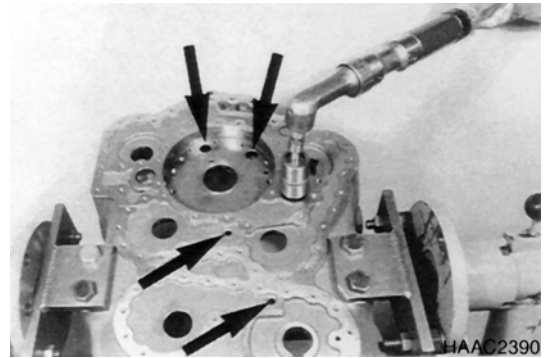

Figure 160
7. Roll in suction tubes and pressure pipes (Figure 160) into the housing bores, using special tool.
NOTE: *Pipe end of pressure pipes (Figure 160) must be slightly below the housing plane face, if necessary equalize.*